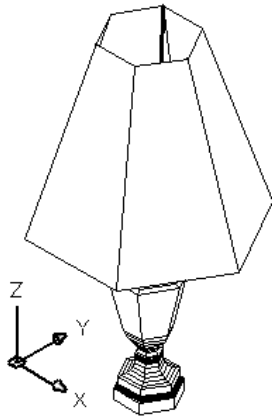

Figure 24-29: The lamp is now ready to place in a 3D drawing of a house.
- To get a better view, choose View ⇨ 3D Views ⇨ SE Isometric. Use the HIDE command to hide the drawing. It should look like Figure 24-29. Of course, looking at the lamp from a different viewpoint does not change the orientation of the lamp relative to the UCS.